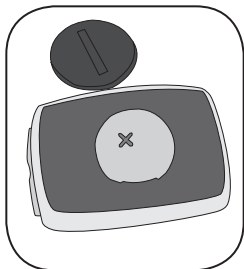

Figure 18- The 'cross' on the battery points up
- Insert the new battery with the 'cross' and identifying label pointing up (Figure 18).